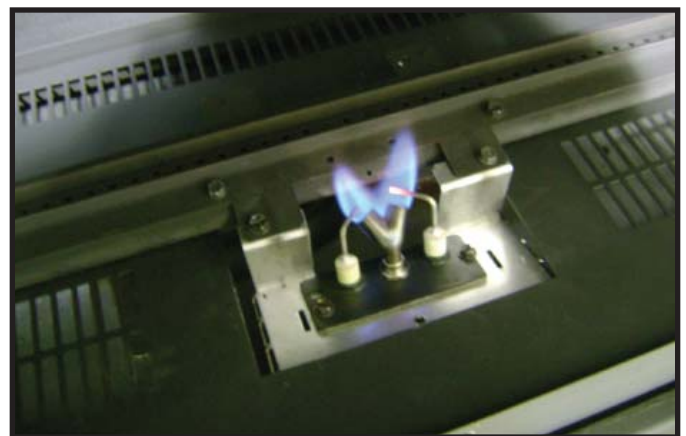

Figure 3.1 IPI Pilot Flame Pattern
- Inspect pilot flame pattern and strength. See Figure 3.1 for proper pilot flame pattern. Clean or replace orifice spud as necessary.